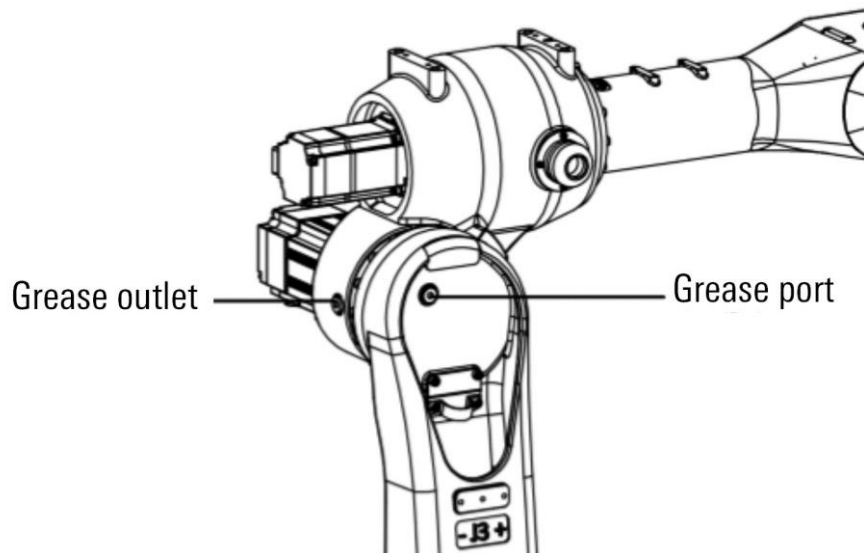

Figure 12-8 AIR10-1720B replacement of J3 axis reducer grease
Step4. Remove the grease outlet M10x1 plug, as shown in Figure 12-8.